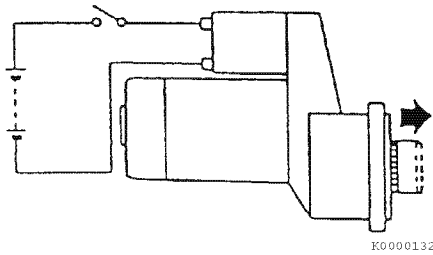

Figure 10-35
4. Turn the switch ON and measure the pinion moving distance L in the thrust direction (**Figure 10-35**). Perform this test within 10 seconds.